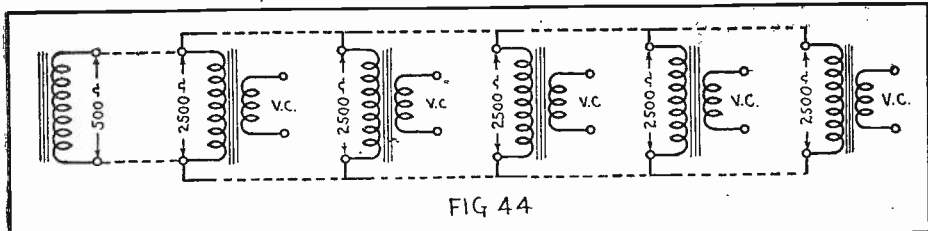
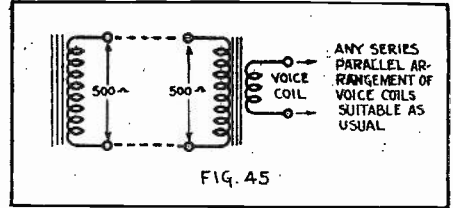
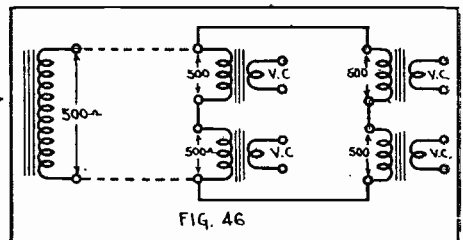

FIG 44
FIG. 45
FIG. 46
to Fig. 44 illustrating voice coil connections, parallel, or series and parallel arrangements. With the field voltages turned "on" (turn amplifier "on" if field excitation exists only when amplifier is "on"), apply a make-break potential of 4.5 volts (C-battery) to the secondary terminals of the 500-ohm line or output transformer. DO NOT HOLD BATTERY CONNECTIONS TO TERMINALS TOO LONG. Never use a voltage in excess of 4.5 volts; never change "C" battery wires around during this procedure. Make contact for about a second, then break. (one lead). Another man must be at the speakers to feel the direction of each cone's movement. THEY MUST ALL MOVE ALIKE—in similar direction. Where a unit moves in opposite direction, simply reverse either the field or the voice coils leads—whichever is most convenient.
(5) Voice coils should be arranged in series, parallel, or series-parallel, so that the combined total of impedance effectively matches the secondary of the line matching transformer. Where a single speaker is concerned, employ the circuit in Fig. 45. Where five voice coils are employed, use speaker transformers and the arrangement shown in Fig. 44. The primary winding of the speaker-matching transformer has an impedance of 2500 ohms. Five of them in parallel result in an impedance of 500 ohms, which will work into the 500-ohm line transformer. As explained before, the impedance of the line is ignored, because of its relatively low value as compared to the transmission impedance. A series-parallel arrangement is shown in Fig. 46. Here two sets of 500-ohm (speaker-primary) impedances are wired so that the combined impedance is still 500 ohms and matches the line transformer.